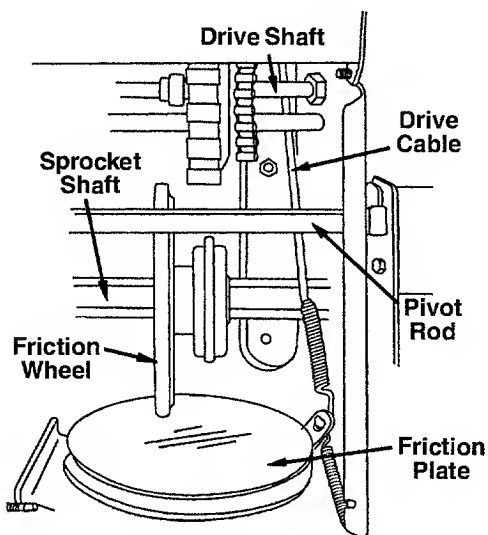

FIGURE 18
- With the traction drive control *engaged*, make sure that the friction wheel is making contact with the friction plate. See figure 18. Also make sure that the overtravel spring is stretched.